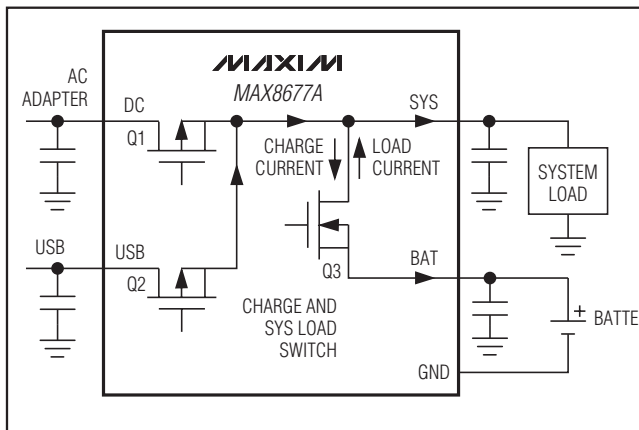

Figure 4. Smart Power Selector Block Diagram
The MAX8677A Smart Power Selector seamlessly distributes power between the external inputs, the battery, and the system load (Figure 4). The basic functions performed are:
An internal 40mΩ MOSFET connects SYS to BAT (Q3, Figure 4) when no voltage source is available at DC or USB. When an external source is detected at DC or USB, this switch is opened and SYS is powered from the valid input source through the input limiter.
The input voltage limiter is essentially an LDO regulator designed to run in dropout. While in dropout, the regulator dissipates a small  $I^2R$  loss through the  $0.2\Omega$  MOSFET (Q1, Figure 4) between DC and SYS. With an AC adapter or USB source connected, the input limiter distributes power from the external power source to the system load and battery charger. In addition to the input limiter's primary function of passing power to the system and charger loads at SYS, it performs several additional functions to optimize use of available power:
- **Input Voltage Limiting.** If an input voltage is above the overvoltage threshold (6.9V typ), the MAX8677A enters overvoltage lockout (OVLO). OVLO protects the MAX8677A and downstream circuitry from high-voltage stress up to 14V at DC and 8V at USB. In OVLO, VL remains on, the input switch that sees overvoltage (Q1, Q3, Figure 4) opens, and the appropriate power-monitor output ( $\overline{DOK}$ ,  $\overline{UOK}$ ) is high impedance, and  $\overline{CHG}$  is high impedance.
If both DC and USB see overvoltage, both input switches (Q1 and Q2, Figure 4) open and the charger turns off. The BAT-SYS switch (Q3, Figure 4) closes, allowing the battery to power SYS.
An input is also invalid if it is less than BAT, or less than the DC undervoltage threshold of 3.5V (falling). With an invalid input voltage, SYS connects to BAT through a  $40m\Omega$  switch (Q3, Figure 4).
The total current through the switch (Q1 or Q2 in Figure 4) is the sum of the load current at SYS and the battery charging current. The limiter clamps at 5.3V, so input voltages greater than 5.3V can increase power dissipation in the limiter. The limiter power loss is  $(V_{\text{DC}} - 5.3) \times I$ , but not less than  $I^2 \times 0.2\Omega$ . Also note that the MAX8677A turns off any input that exceeds 6.9V (nominal).